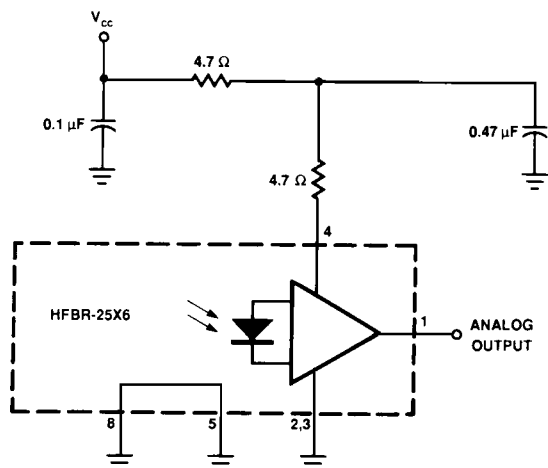

Figure 1. Recommended Power Supply Filter Circuit.
Electrical/Optical Characteristics 0 to 70°C; 5.25 V $\geq$ V_{CC} $\geq$ 4.75 V; power supply must be filtered (see Figure 1, Note 2).
- The signal output is an emitter follower, which does not reject noise in the power supply. The power supply must be filtered as in Figure 1.